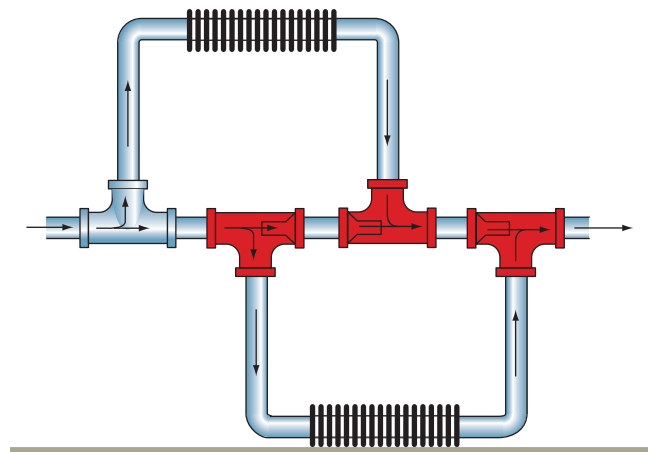

FIGURE 17-47 Alternate tees if there are terminal units both above and below the main loop.
- ✓ If there are multiple terminal units and some are above and some are below the main hot water loop, it is best to alternate the tees. For example, from left to right: supply upper, supply lower, return upper, return lower (Fig. 17-47).